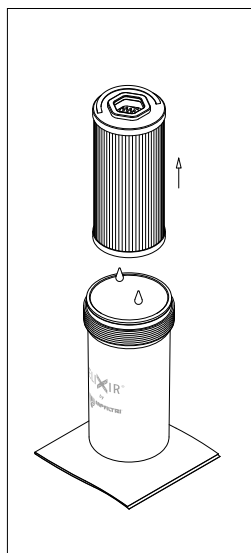

fig. 3
- (Fig. 3) Pull the filter element out after placing a protection from operating fluid dripping